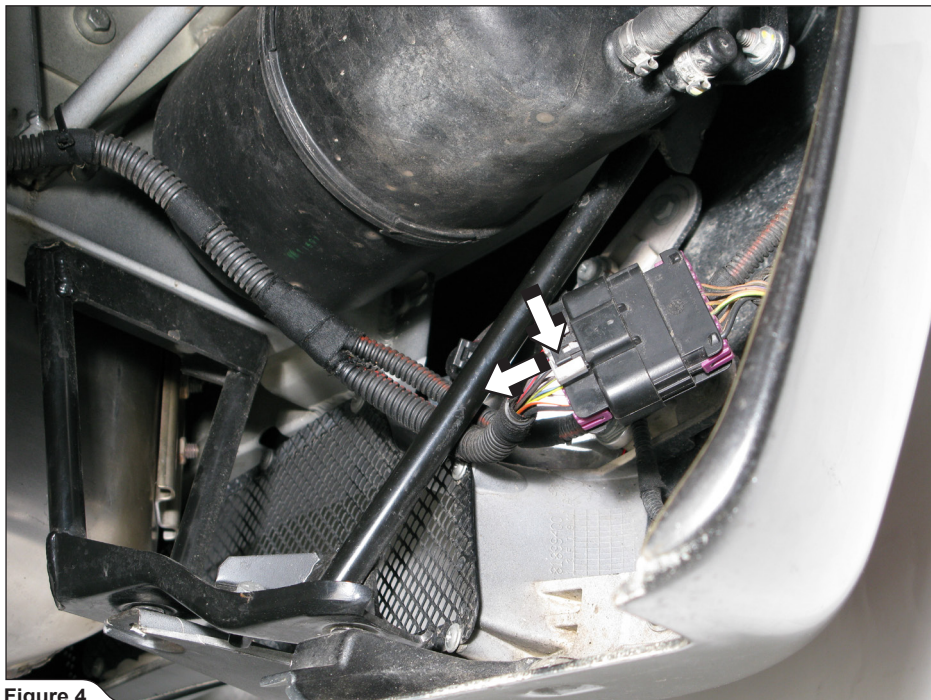

Figure 4
3. **For Slip-On and optional Link Pipes:** disconnect the number plate lights/PDC sensors/fog lights connector. Pull the grey safety pin out first, then press the black pin in and pull the connector apart (**Figure 4**).